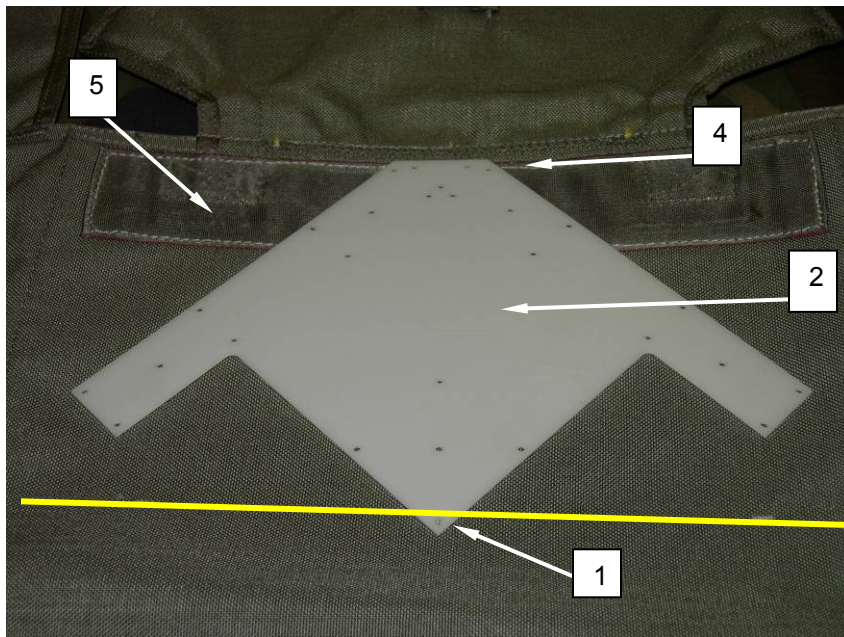

Figure 35. Proper Placement of Template.
- Place the first hole (Figure 35, Item 1) on the bottom edge of the template (Figure 35, Item 2) on top of the 6-inch center mark on the main pack tray. Align top edge of the template (Figure 35, Item 4) with the reinforcement panel (Figure 35, Item 5).